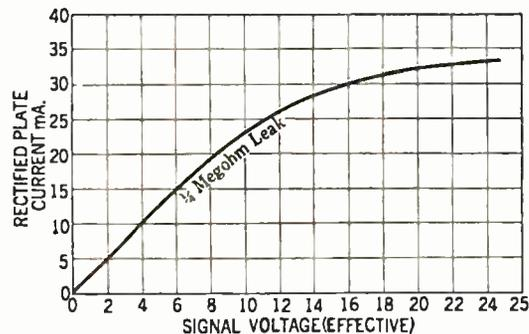

Fig. 4—Rectified plate current of a 210-type tube as a function of signal voltage, showing the possibilities of power detection under suitable conditions.
That real undistorted power can be obtained from a grid leak-condenser power detector under favorable conditions is shown by Fig. 4 which gives the measured rectified plate current in a 210-type tube as a function of radio-frequency signal voltage. It is evident that rectified output is almost exactly proportional to the signal up to an applied potential of about 10 or 12 volts effective. The curves given in Figs. 1 (D), 1 (E), and 1 (F) are actual curves drawn to scale showing the measured performance of this 210-type tube under the same conditions as in Fig. 4.